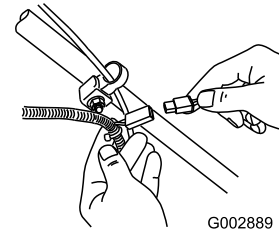

**Figure 22**
1. Connect the charger to the wire harness located below the ignition key (Figure 22).